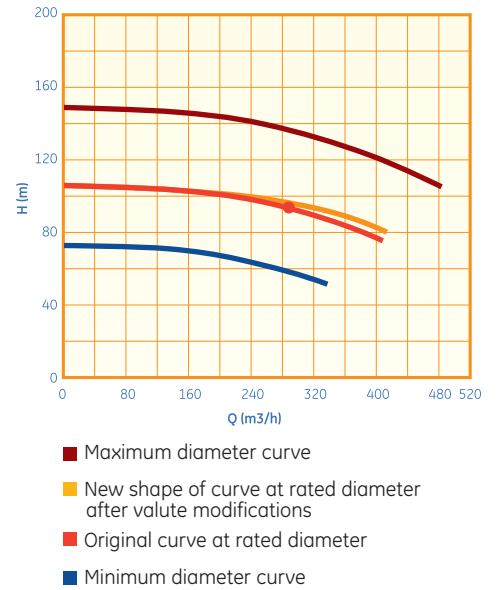

Figure 5: Impact on performances due to valute modifications
- Different trims on impeller vanes (i.e., racked, V-trim, etc.) and/or underfilling/overfilling (Figure 3) to modify the shape of the performance curve to better match customer needs (Figure 5)